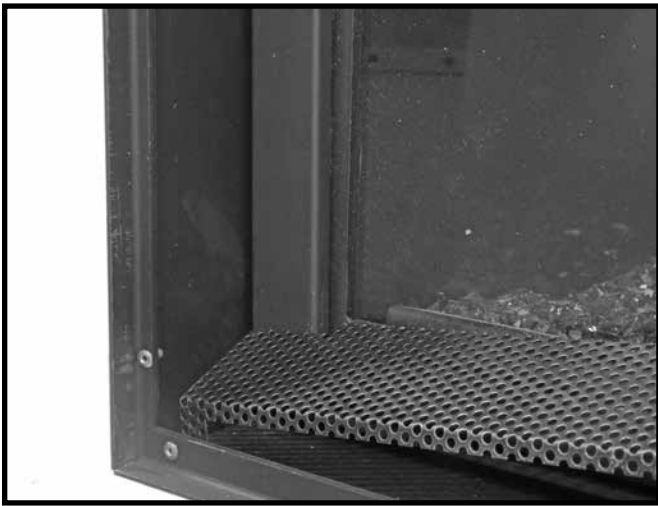
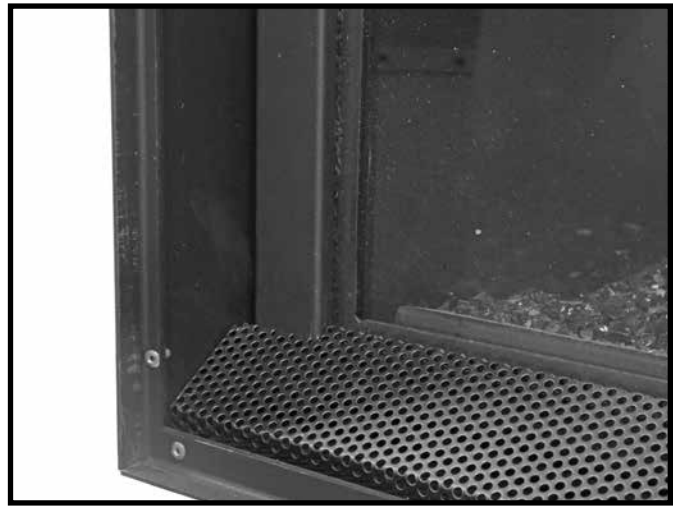

Figure 84: Installing bottom trim.
Figure 85: Bottom trim in place.
4. The meshed trim piece for the bottom rests on the floor and in the gap between the outer-most door frame and the fireplace glass (Figure 84 and Figure 85)..